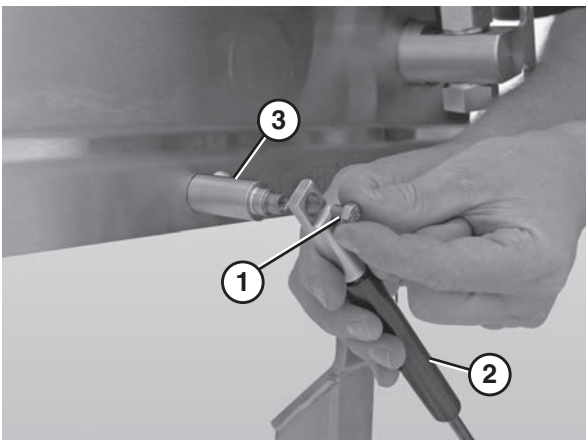

Figure 88
3. Remove the hex bolt (**Figure 88, item 1**) that connects the gas spring (**Figure 88, item 2**) to the gas spring standoff post (**Figure 88, item 3**).
4. Remove the inside hex bolt that connects the standoff post (**Figure 88, item 3**) to the frame.